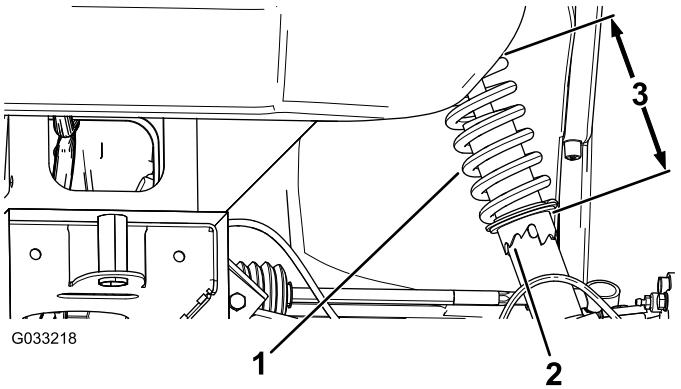

Figure 49
2. If the wheel camber is out of alignment, use the spanner wrench to rotate the collar on the shock absorber to align the wheel (Figure 49).